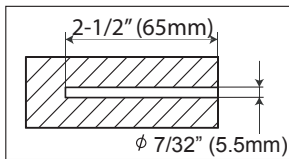

Fig. 3d
3. Use a 7/32" (5.5mm) drill bit to pre-drill holes at least 2.5" deep at the marked locations (Fig. 3d).